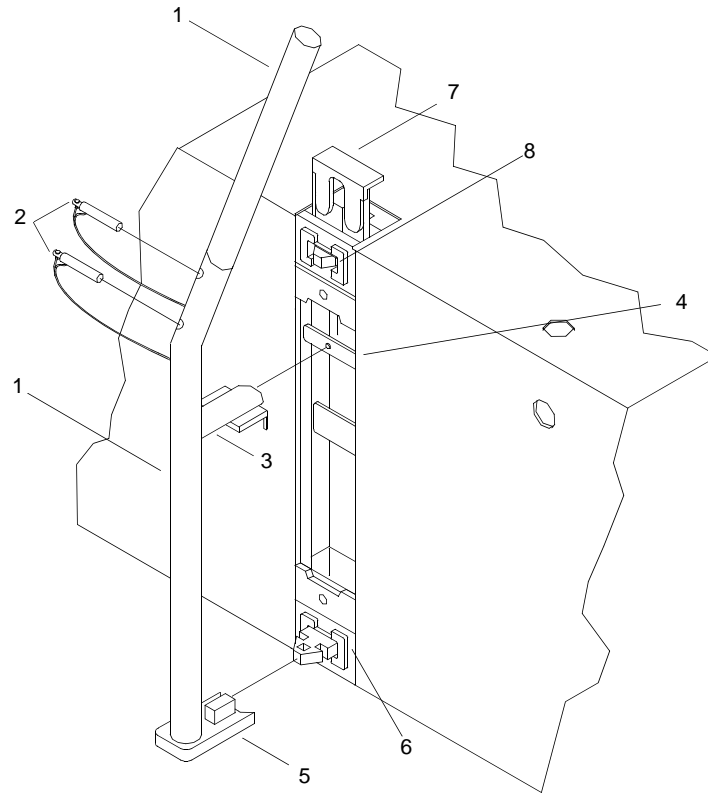

Figure 9. Pin Retraction Tool for Lower Male Connector
- a. Assemble two-piece pin retraction tool (figure 9, item 1) and secure with two quick release pins (figure 9, item 2).
- b. Rest pin retraction tool support fitting (figure 9, item 3) on guillotine cross bracket (figure 9, item 4).
- c. Position foot (figure 9, item 5) of pin retraction tool (figure 9, item 1) over lower male guillotine connector (figure 9, item 6) and press connector inwards by levering pin retraction tool (figure 9, item 1) upwards.
- d. Lower guillotine (figure 9, item 7) with sledgehammer to partially engage lower male guillotine connector (figure 9, item 6).
- e. Remove pin retraction tool (figure 9, item 1).
- f. While holding upper lock male guillotine connector (figure 9, item 8) inward against spring, complete lowering guillotine connector (figure 9, item 7) with sledgehammer to engage both male guillotine connectors (figure 9, items 6, 8).